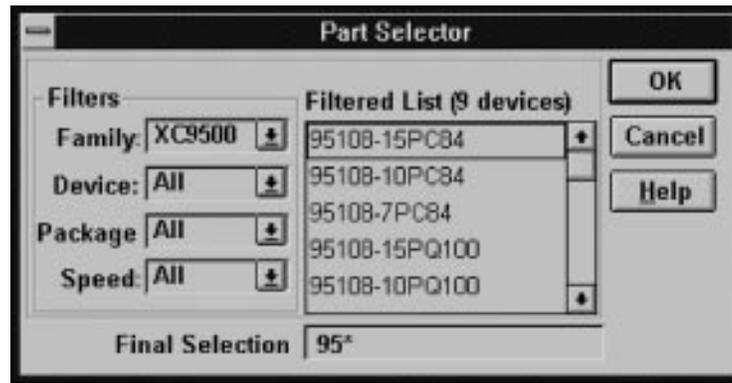

Figure 2-20 Part Selector Window
2. Select New Device from the Design menu. You will see the Part Selector dialog window as shown in Figure 2-20.
3. If you know the specific device you want to use, select the part type, package type, and speed grade by scrolling through the available options as shown in Figure 2-20. For EPLD designs select the XC9500 family or the XC7000 family.